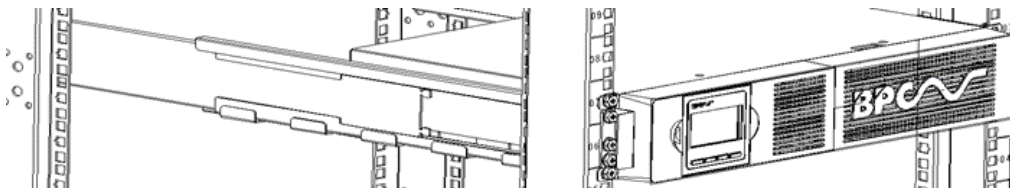

Figure3.3 Securing the Front of the Cabinet
- g. Secure the front of the UPS to the rack using one M5×12 pan-head screws and one M5 cage nuts on each side (see Figure 3.3).